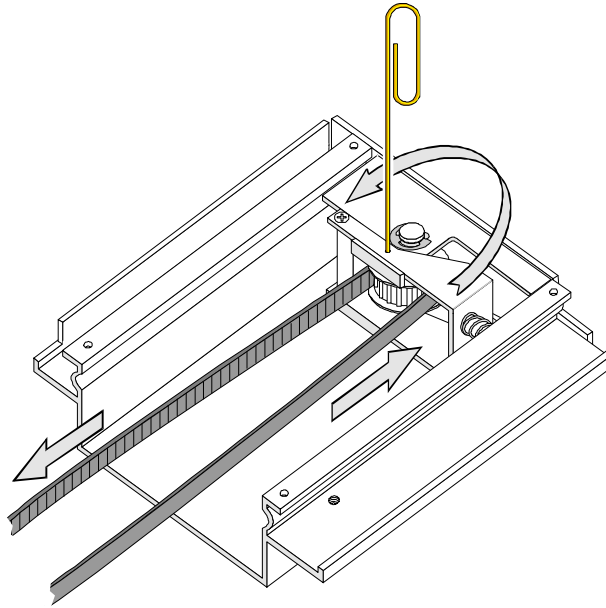

Figure 2-6 Threading the Belt Through the Base Section
2. Referring to Figure 2-6, locate the tensioner ramp in the base section. Compress the spring until the hole in the tensioner ramp is aligned with a hole in the base section. Insert an 0.050" Allen wrench or a paper clip through the holes. This sets the idler pulley for zero belt tension.
7. Referring to Figure 2-6, thread the belt from the motor drive counter-clockwise around the idler pulley and back to the right end.
5. Referring to Figure 2-6, locate the tensioner ramp in the base section. Compress the spring until the hole in the tensioner ramp is aligned with a hole in the base section. Insert an 0.050" Allen wrench or a paper clip through the holes. This sets the idler pulley for zero belt tension.